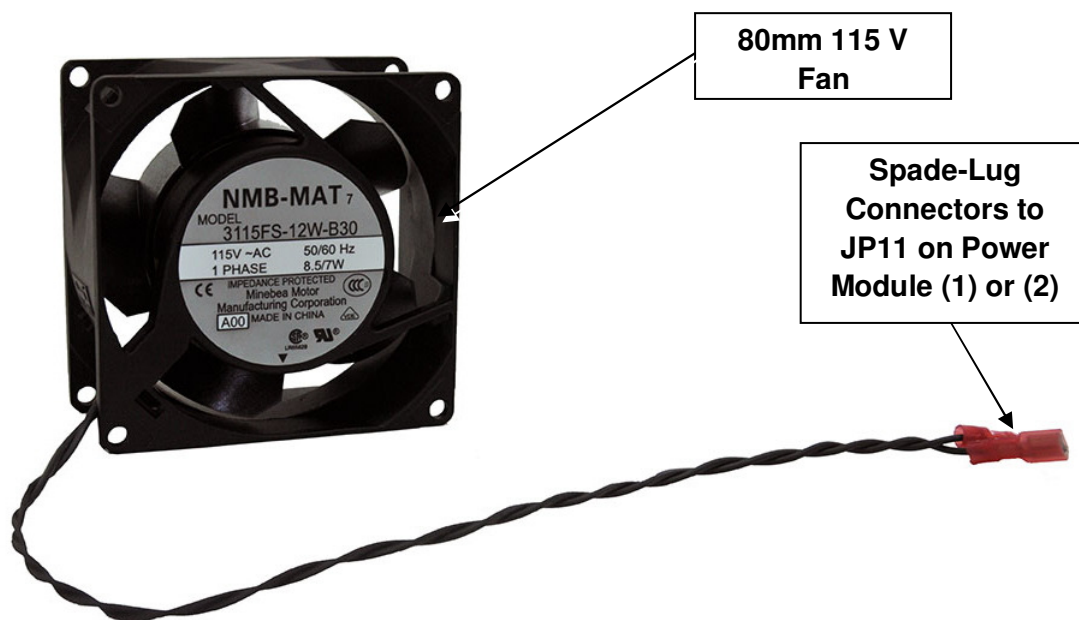

Figure 12: AC Fan
- The two (2) AC fans are mounted on the inverter dividing panel and are used to circulate air in both the circuit board and transformer compartments. By drawing air into the circuit board compartment, these 80mm, 115 V fans, remove stagnant hot air and exhaust it through the rear of the transformer compartment, see Figure 12.
5.4 REPLACING THE AC FANS (P/N VF00015): - SEE FIGURES 12 & 20